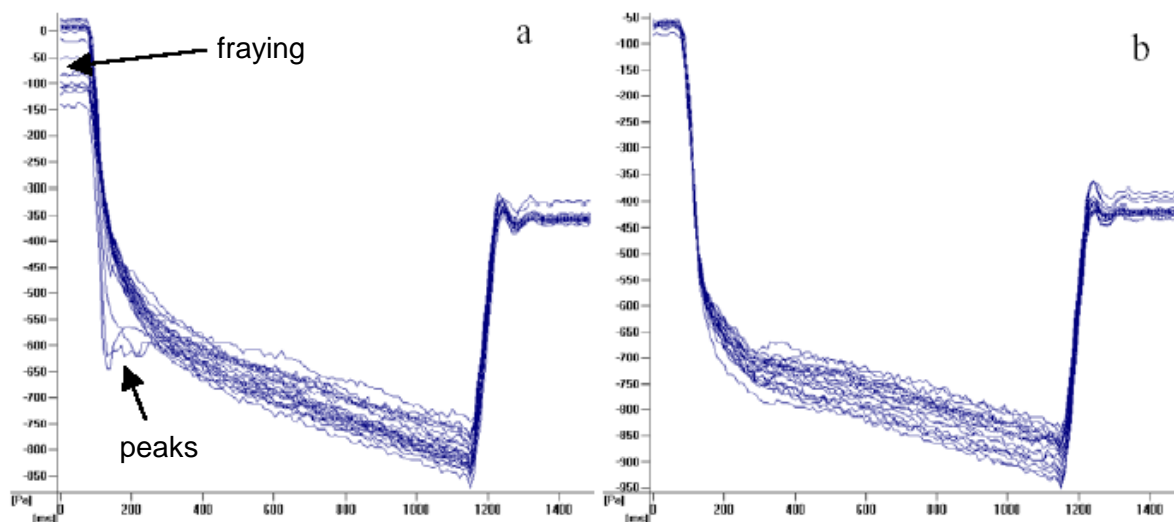

Fig. 20a: Uncorrected Aspiration
The peaks and the fraying of curves observed in Figure 20a (left picture) can be an indication that the liquid class and / or the pipetting steps are not defined in an optimal and robust way, but they can also be characteristic of the liquid used. In the example shown above, the pipetting process was not optimized. An adjustment of the pipetting parameters in the pipetting process resulted in the curves shown in Figure 20b (right picture).
*TADM curves such as in Figure 20a can be - but do not have to be - an indication that the pipetting process is not robust and precise.*